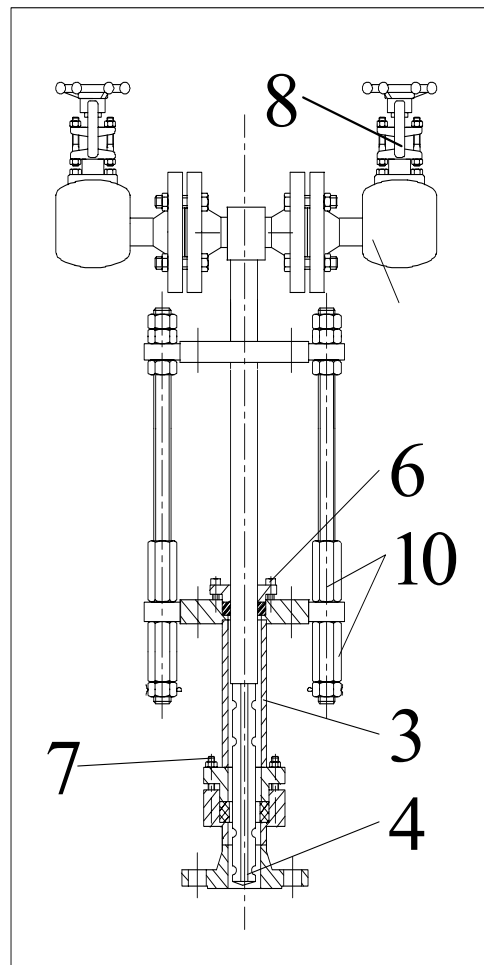

Abb. 14: Sensorprofil mit Schutzrohr
11. Inspect Flo-Tap assembly to insure that the insert-retract mechanism is fully retracted as shown in Figure 14.